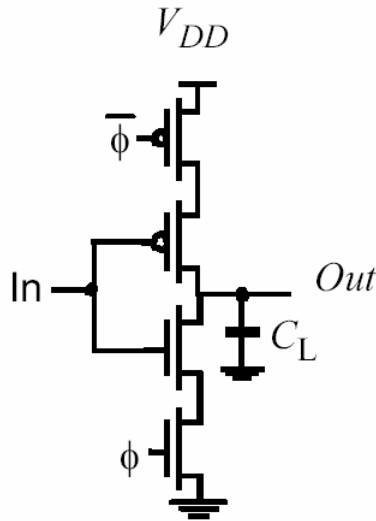

Figure 2.1
3. **C²MOS Latch:** Consider the C²MOS gate below in Figure 2.1.